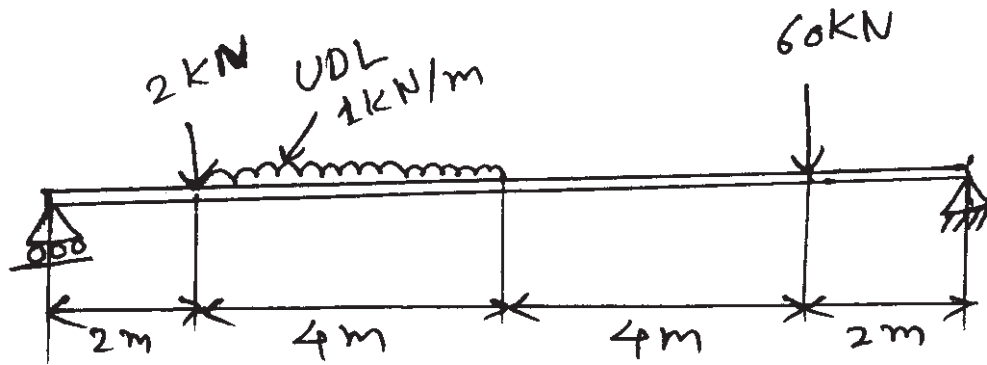

Figure 2
b) Draw SFD and BMD for the beam with loading as shown in figure 2. [9]